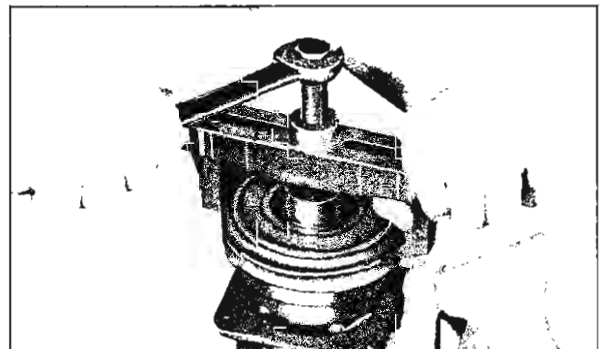

Fig. 20—Removing Pulley
4. Place puller pilot J-9395 over the compressor shaft and pull off the pulley assembly using J-8433 pulley puller (fig. 20).